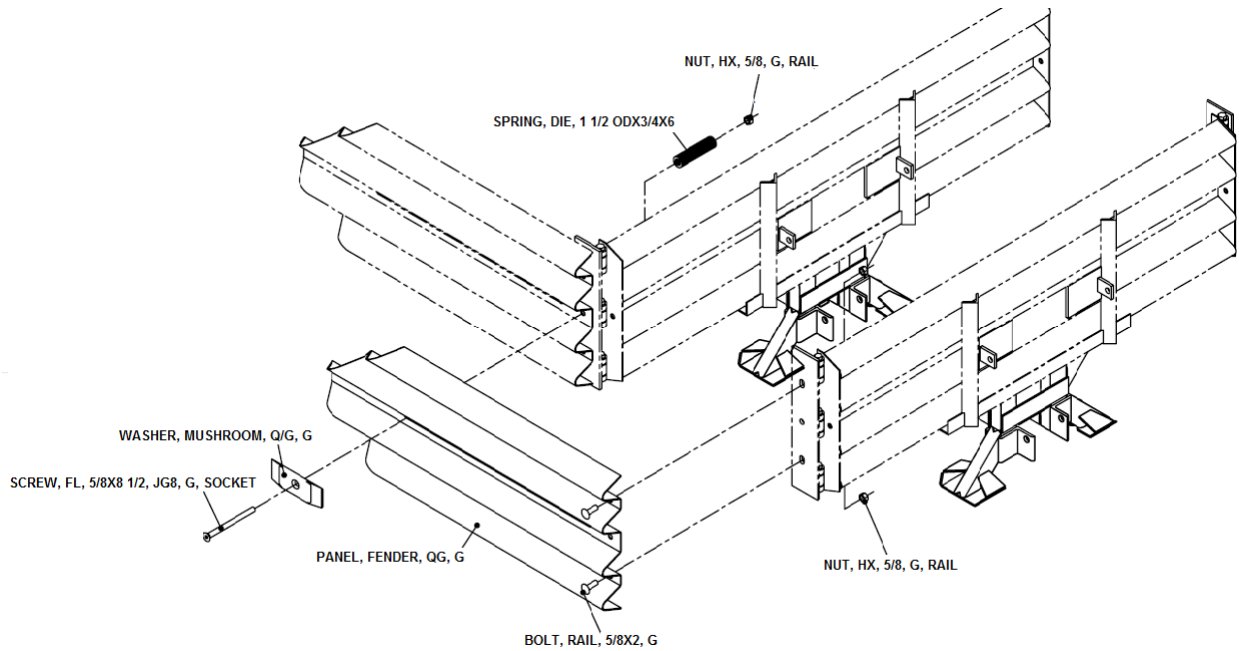

Figure 61
- Starting at the last Bay, attach left and right Fender Panels as shown in Figure 61. Attach the hinge plate at the front of the Fender Panels to the Diaphragm in front using three (3) 5/8" x 4" hex bolts, 5/8" hex nuts, and 5/8" lock washers.
- Attach Mushroom Washer Assembly as shown in Figures 61 & 62 but do not tighten at this time.